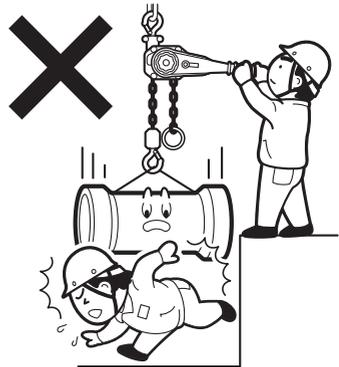

Figure 9
- (1) Individuals unfamiliar with the contents of the instruction manual and caution nameplate must not operate this product.
- (2) Do not use this product to support, lift, or transport people.
- (3) Do not allow anyone to enter the area underneath or within the movement range of suspended loads. Additionally, do not move the load above anyone. (Figure 9)
- (4) Use this product within a temperature range of  $-40^{\circ}\text{C}$  to  $+60^{\circ}\text{C}$  (with humidity of less than 100%RH).
- (5) Do not use this product in water.
- (6) Never use this equipment in locations constantly subjected to wind, rain, or waves, or in locations susceptible to salt damage, acid, alkali, etc., as this could cause damage to the equipment and load chains.